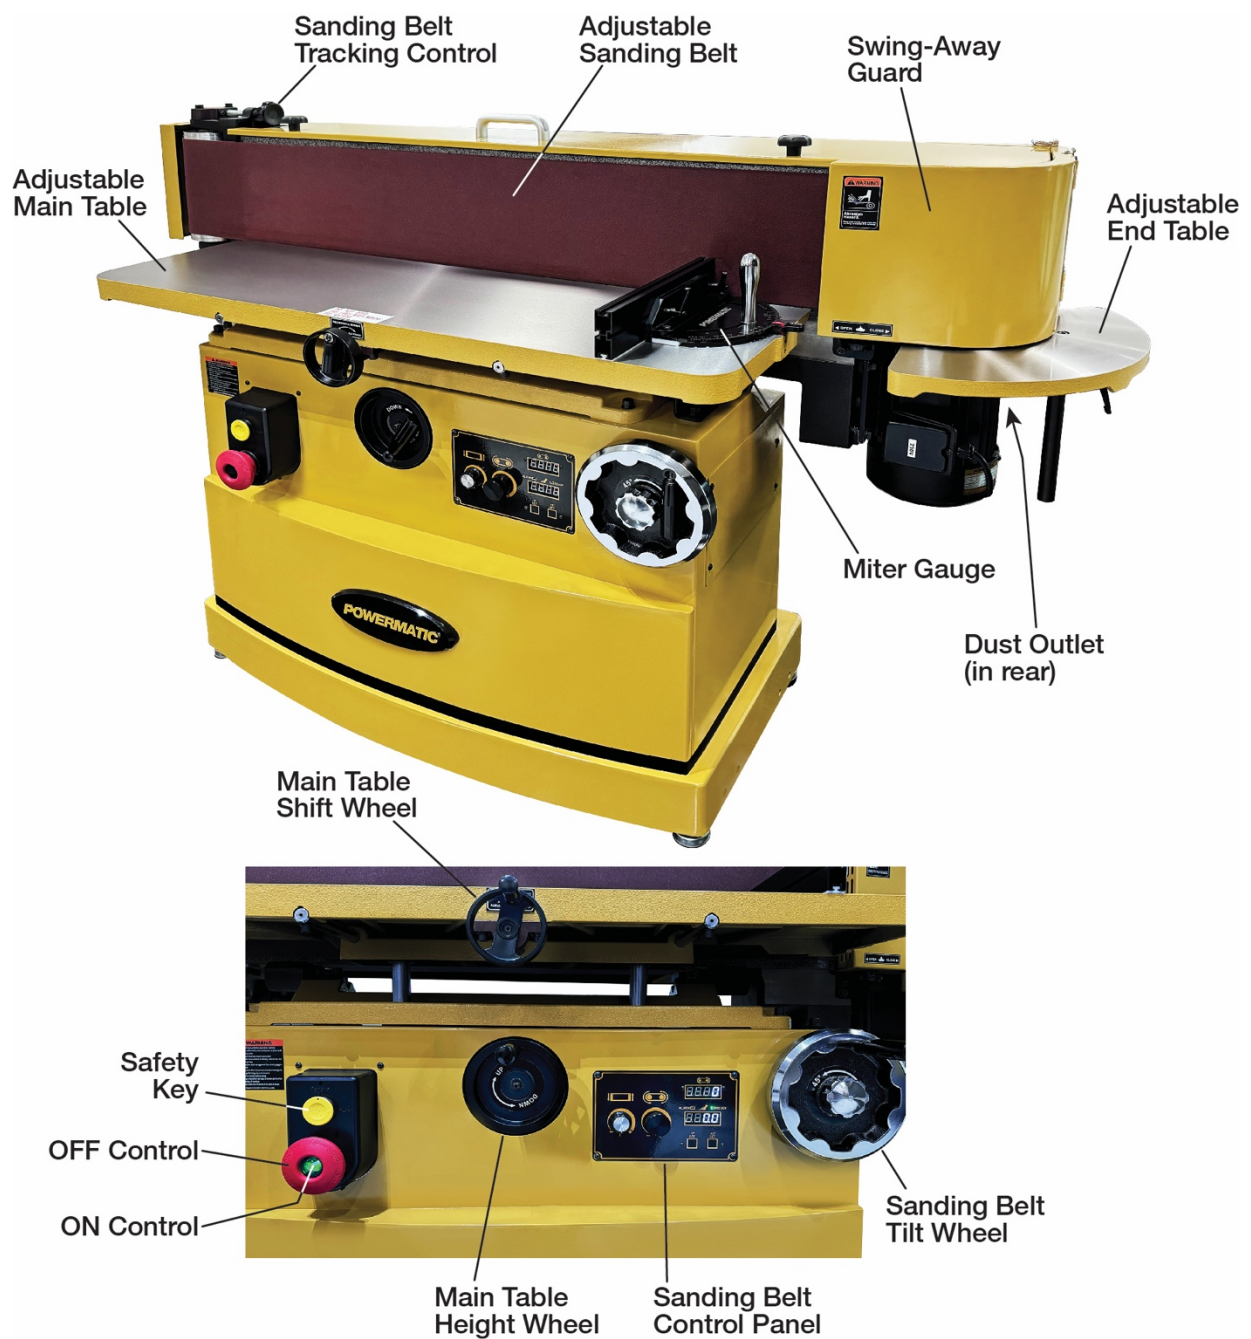

Figure 6-1
1. Connect machine to power source and press the start button (see Figure 6-1).
2. The sanding belt should move left to right, as viewed from the front of the machine. If the sanding belt movement is incorrect, press the stop button (see Figure 6-1) and disconnect machine from power.